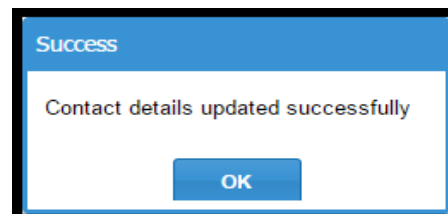

Figure 82 Success pop-up window
3. Click **Submit**. A pop-up window displays a success message, as shown in Figure 82 on page 59.